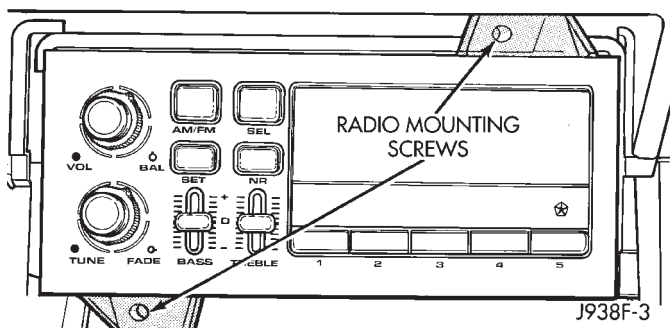

Fig. 2 Radio Removal
- (4) Remove center bezel.
- (5) Remove 2 screws from radio (Fig. 2).